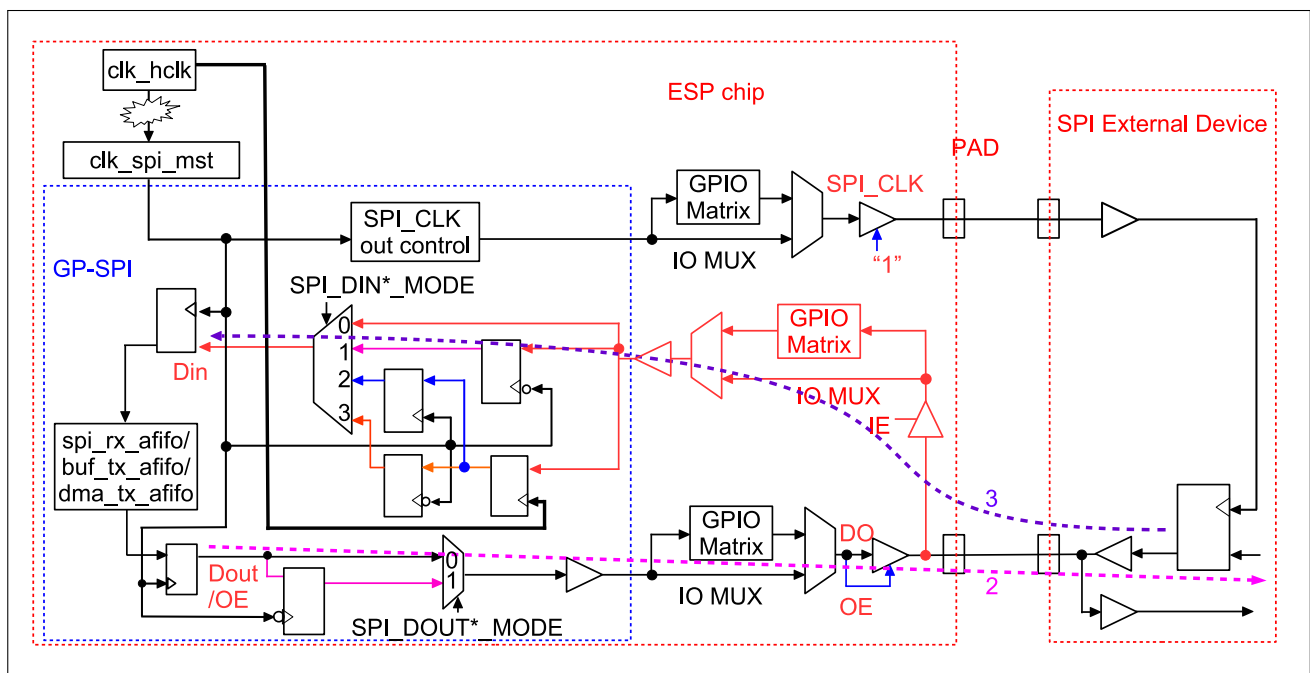

Figure 23.8-1. Timing Compensation Control Diagram in GP-SPI as Master
Figure 23.8-1 shows the timing compensation control for GP-SPI2 as master, including the following paths:
- “IN”: data input path of GP-SPI2 (see line 3 path in color purple in Figure 23.8-1). The input data from an external SPI device passes through GPIO matrix or IO MUX, then is adjusted by the Timing Module (see Figure 23.5-2) and finally is stored into `spi_rx_afifo`.
- “OUT”: data output path of GP-SPI2 (see line 2 path in color rose-red in Figure 23.8-1). The output data is sent out to the Timing Module, passes through GPIO matrix or IO MUX and is then captured by an external SPI device.